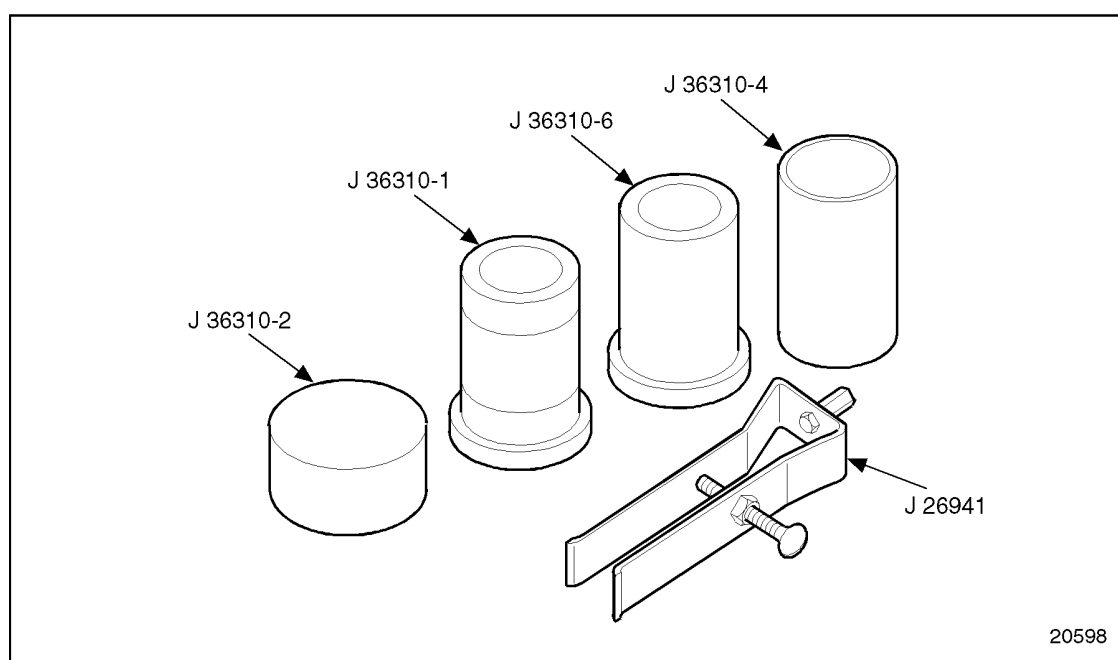

Figure 10-14 Air Compressor and Fan Drive Service Kit Set
8. Use the air compressor and fan drive service tool set, J 36310-A, for disassembly. See Figure 10-14.